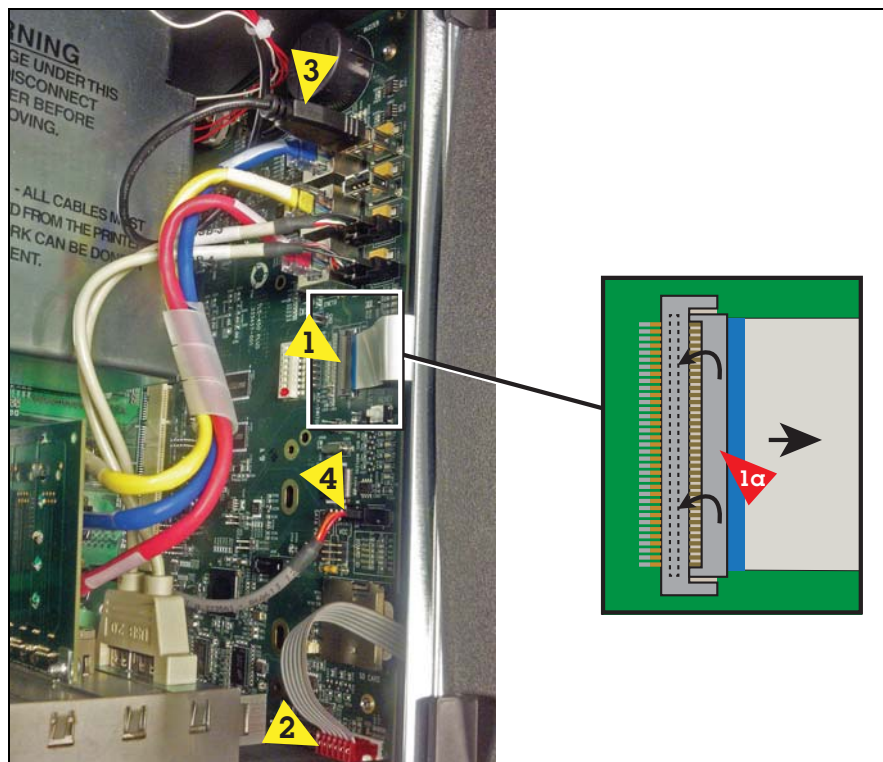

Figure 5. Remove Optional Printer And Display Cables From CPU Board
For right doors with the optional touch display, remove the Display Data cable (pointer 1 in Figure 5) from the CPU board connector. Rotate the locking member of the cable's Display connector (1a pointer) up 90° from the connector's fixed base and slide cable end out.
2. Remove the LED Back light cable (pointer 2 in Figure 5) from the CPU board connector.
3. If a printer is installed, remove the printer's USB cable (pointer 3 in Figure 5) from the top USB connector (USB 1).
4. Remove the Wireless cable (pointer 4 in Figure 5) from the CPU board connector.
21. Reconnect the optional Printer, LED Backlight and Wireless cables (ref. Figure 5).
6. Reconnect the optional Printer, LED Backlight and Wireless cables (ref. Figure 5).